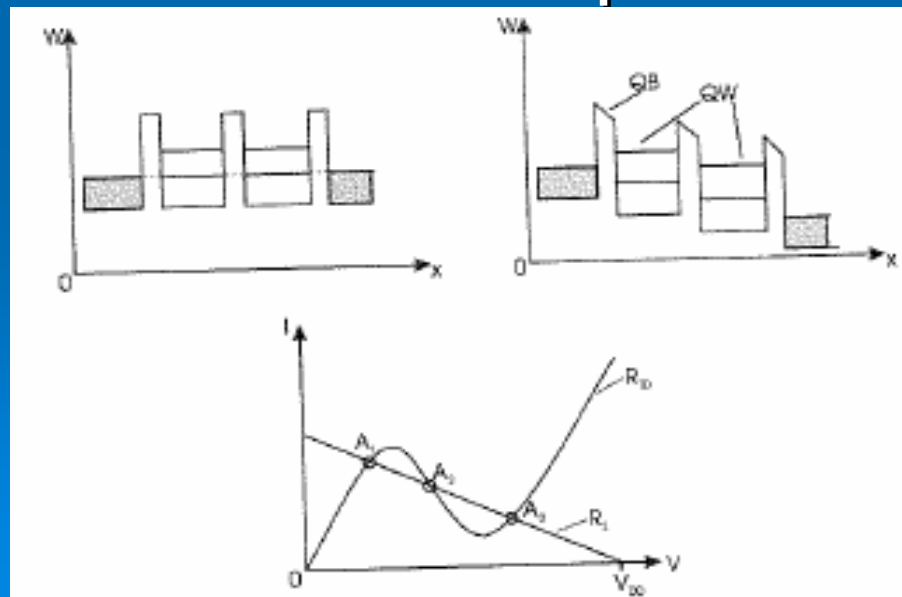

Fig. 12.11. RTD with two wells and three barriers
- A different implementation of RTDs uses three barriers (Figure 12.11)